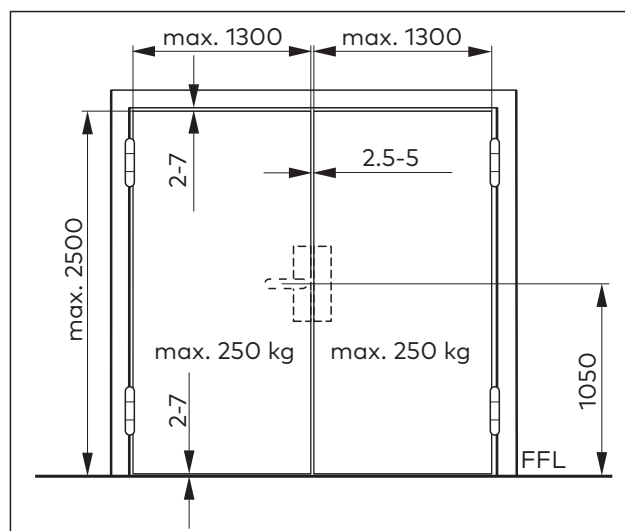

Fig. 12 Requirements for the door
- The door corresponds to the specifications in Abb. 12 and is deformed by a maximum of 5 mm.